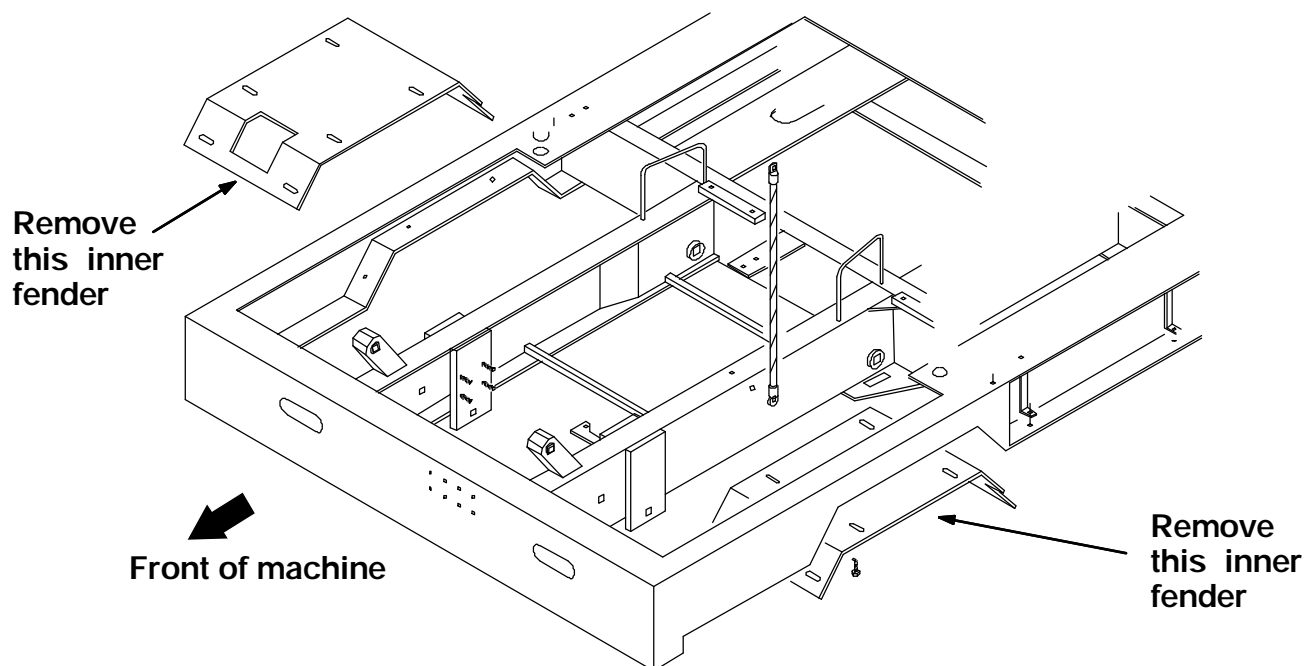

FIG. 1 - Remove Inner Fender
(Refer to FIG. 1 and 2)
3. Remove both front inner fenders from above the drive wheels. (Refer to Fig. 1)